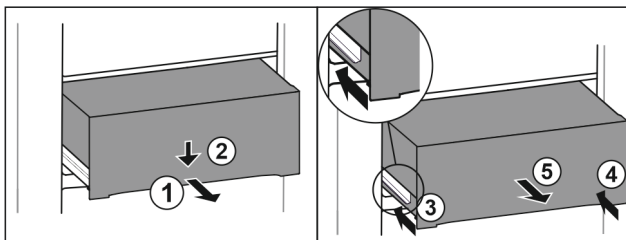

Fig. 96
- ▶ Pull out drawer half-way. Fig. 96 (1)
- ▶ Push the drawer down at the front. Fig. 96 (2)
- ▶ Push the left rail in by about 2 cm. Fig. 96 (3)
- ▶ Push the right rail in by about 2 cm. Fig. 96 (4)
- ▶ Remove drawer to the front. Fig. 96 (5)